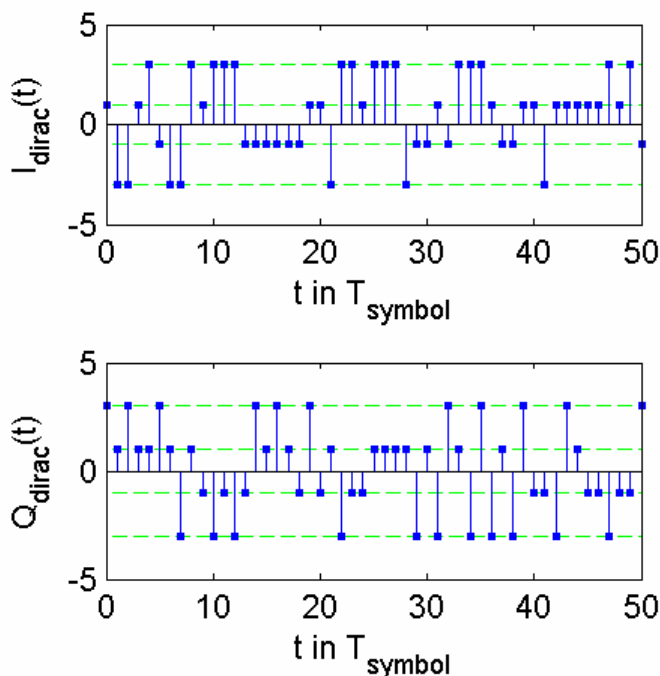
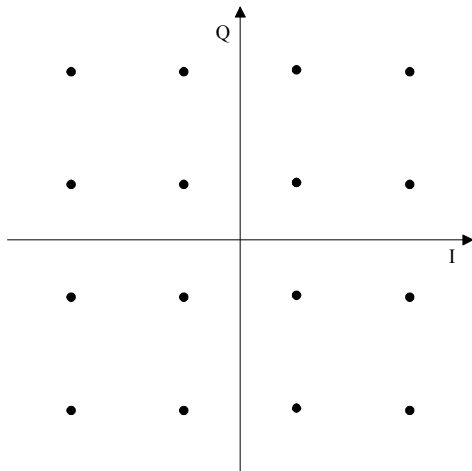
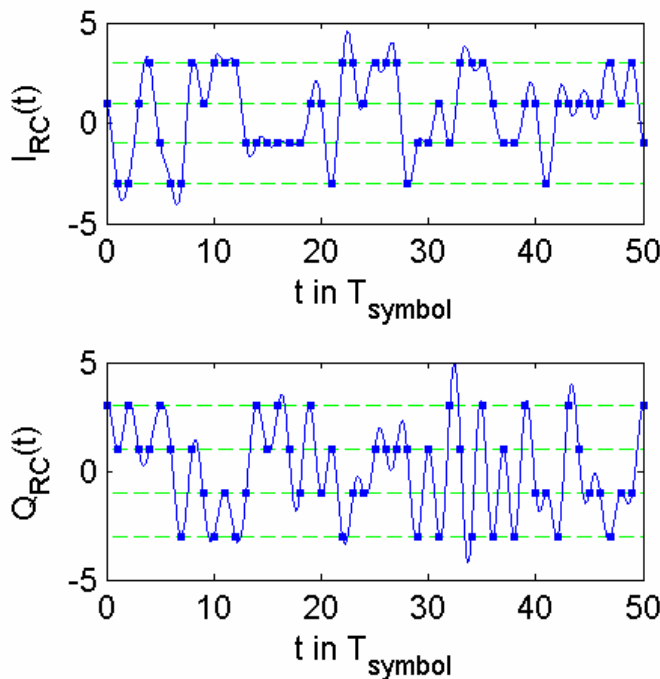

Fig. 2-45 Pulse signals  $I_{dirac}(t)$  and  $Q_{dirac}(t)$  for 16QAM
Fig. 2-46 16QAM constellation diagram
Fig. 2-48 Raised cosine filtered dirac signals  $I_{RC}(t)$  and  $Q_{RC}(t)$
The *symbol mapping* block transforms the digital information (bits) into the continuous signals  $I_{dirac}(t)$  and  $Q_{dirac}(t)$ .  $I_{dirac}(t)$  and  $Q_{dirac}(t)$  (see Fig. 2-45) consist of dirac pulses that appear at times  $t=n \cdot T_{symbol}$  and that can be distinguished by their in-phase "I" and quadrature "Q" levels. For example a 16QAM constellation has 16 different I and Q combinations and 4 different I and Q levels ( $4 \cdot 4 = 16$ ). Typically this is visualized in a constellation diagram (see Fig. 2-46). With  $16 = 2^4$  we are able to transmit 4 bits per symbol. Therefore we can calculate:
We notice that the symbol instants (highlighted with squares) are not on the horizontal lines (possible symbol levels) anymore. This is due to the inter-symbol interference introduced by the root raised cosine TX filter. Contrary to the signal filtered with two root raised cosine filters (TX and RX) the one filtered with a single root raised cosine filter (TX) does not satisfy the condition for zero inter-symbol interference. Fig. 2-48 shows the signal obtained by filtering the dirac signals with two root raised cosine filters. The convolution of two root raised cosine filters is also called raised cosine filter and it results in an overall inter-symbol interference free system. We observe that all symbol instants (highlighted with squares) of  $I_{RC}(t)$  and  $Q_{RC}(t)$  have exactly the same levels as the signals  $I_{dirac}(t)$  and  $Q_{dirac}(t)$  in Fig. 2-45. Please note that this is only true for the signals  $I_{RC}(t)$  and  $Q_{RC}(t)$  if there is no noise present in the receiver. In the case of noise points will turn into clouds, that is what can be seen in the Constellation Diagram measurement (modulation analysis).
Please note that the  $2\pi/4$  rad (90 deg) rotational symmetry of the QAM constellation (see Fig. 2-46) leads to an ambiguity in the calculation of the amplitude imbalance. Ambiguity means that the QAM demodulator of the Cable TV Measurements option has no knowledge of the absolute phase in the transmitter but chooses one out of four possible phase angles (0,  $\pi/2$ ,  $\pi$ , or  $3\pi/2$  rad). It can be shown that the phase ambiguity leads to two possible amplitude imbalance values. For the amplitude imbalance the ambiguity can be resolved by using the definition as follows: